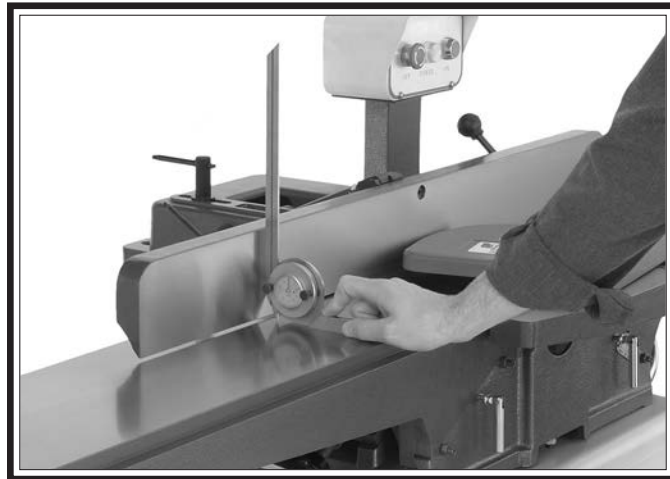

Figure 55. Example of adjusting fence to 90°.
3. Using a 90° square, adjust fence to 90° position (see **Figure 55**), then tighten fence tilt lock.